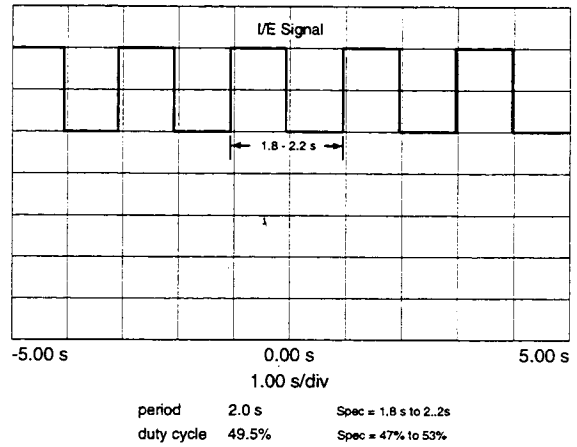

Figure 7-11. Timed Mode, BPM Max, %IPAP: 50%
- Step 5 Verify and record that the I/E signal has a period of approximately 1.8 to 2.2 seconds. See Figure 7-11.